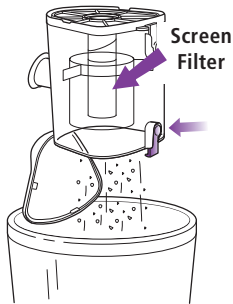

Fig. 18
- 3 If needed, turn the dust cup upside down over the trash receptacle and press the top door release button. (Fig. 18) Tap gently to remove contents.